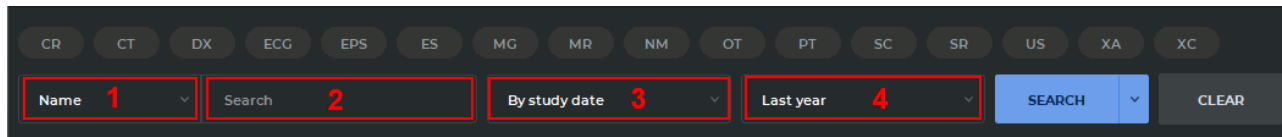

Figure 1.13: Search panel
The search panel is shown in Fig. 1.13.
A search query is executed in the text field (see «2» in Fig. 1.13). From the drop-down list («1» in Fig. 1.13), select one of the following search parameters:
The search panel also provides for search by date of birth, search by the date of study performance or study import. Select one of the following options from the drop-down list (see «3» in Fig. 1.13):
- **by date of birth.** In the search period drop-down list (see «4» in Fig. 1.13) only the *Exact date* option is available.
You can perform search by the exact date, by the time interval specified or by the period selected from the drop-down list. Choose a period from the drop-down list (see «4» in Fig. 1.13):